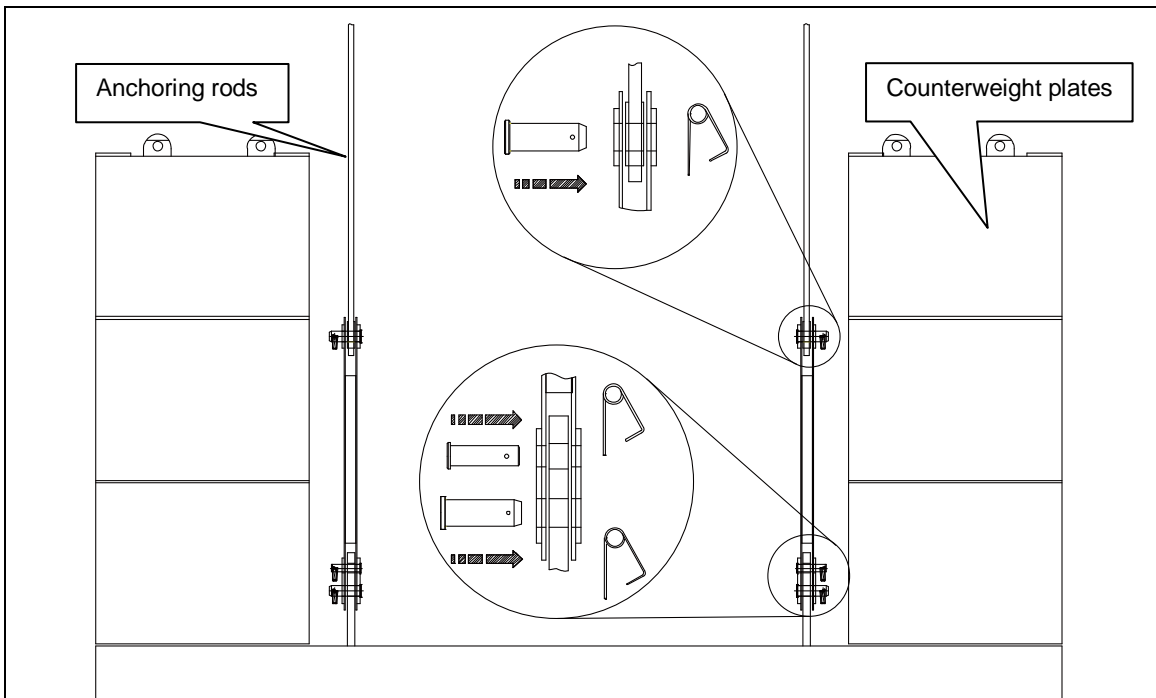

Figure 5-33 Connection of counterweight anchoring rods
- b) Travel basic machine backwards until the counterweight lifting cylinder is positioned above the mounting hole of counterweight base plate. Connect counterweight anchoring rods. See the figure 5-33.